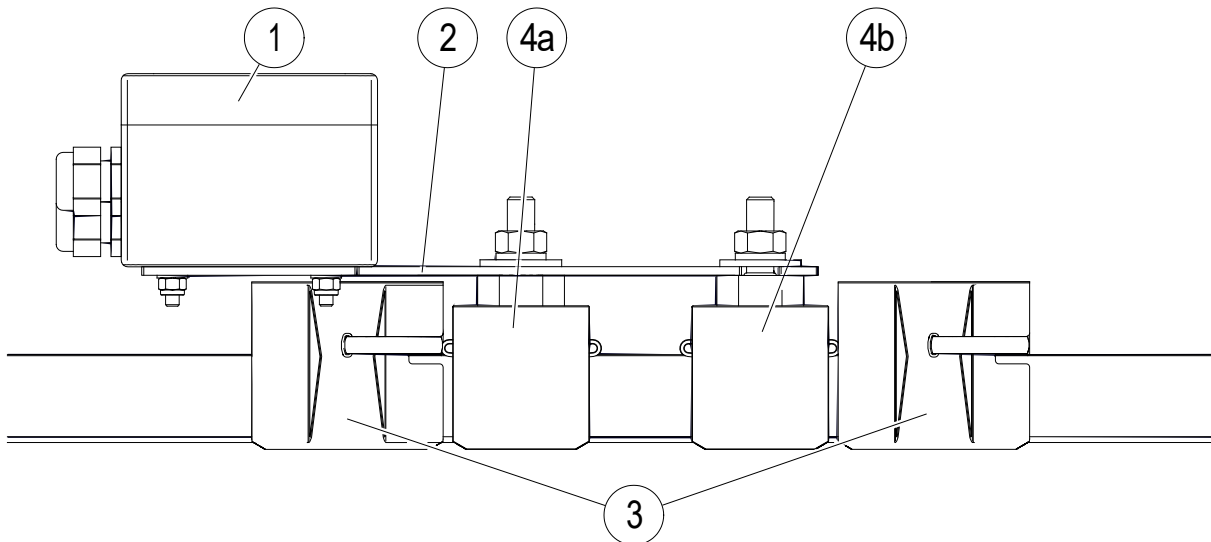
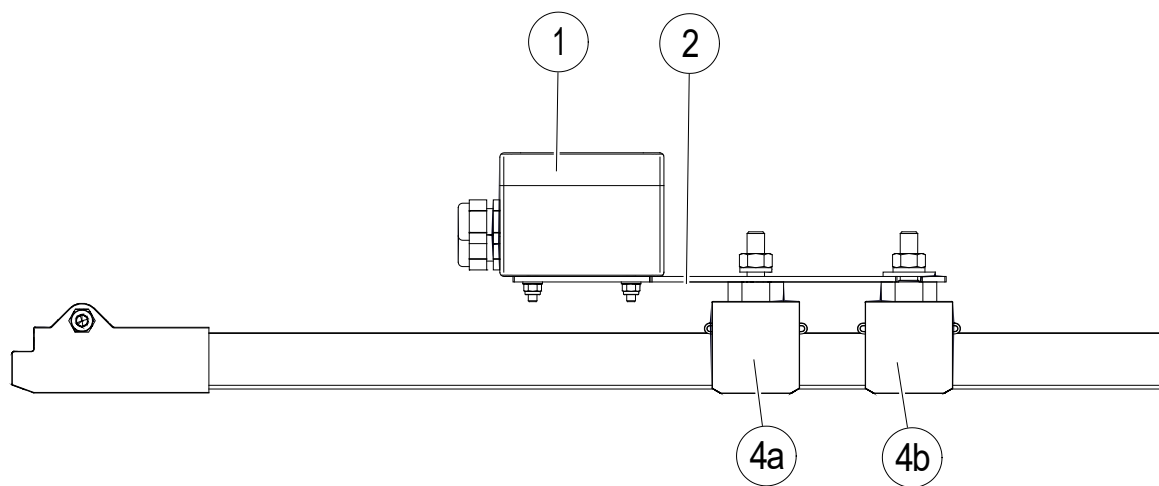

Fig. 55: Terminal box unit including rail fastening
Fig. 58: Terminal box around the end feed (end cap)
- Mount the terminal box (item 1) installed on the fixation plate (item 2) onto the conductor rail. A distinction is made between fastening by means of anchor points (see chapter 2.5.3.1) and fastening by means of hanger clamps at the on-site support structure (see chapter 2.5.3.2).
Fastening by means of anchor points must be selected if the terminal box unit on the conductor rail cannot be fastened to the on-site support structure (e.g. support bracket, support arm or similar) by means of a hanger clamp (item 4a, Fig. 55).
However, to prevent the terminal box from moving on the rail in the area of the infeed, anchor points (item 3) must be mounted around the hanger clamps (see Fig. 55).
Wherever possible, the terminal box unit should be fastened directly to the on-site support structure (e.g. support bracket; support arm, or similar). This is done via one of the hanger clamps (item 4a, Fig. 58). Therefore no anchor clamps are required (item 3, Fig. 55).